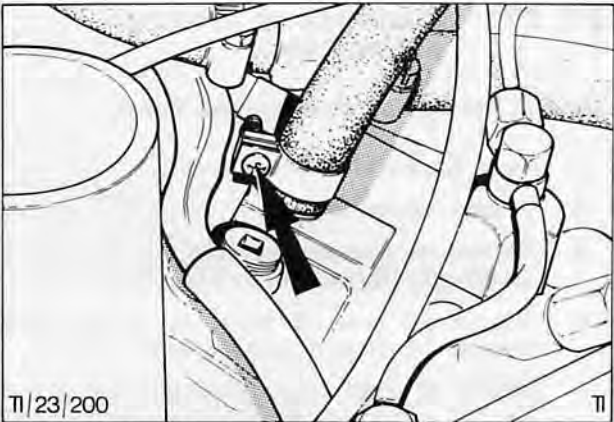

Fig. 78. Crankcase vent pipe on inlet manifold
4. Disconnect crankcase vent pipe on the inlet manifold, Fig. 78.